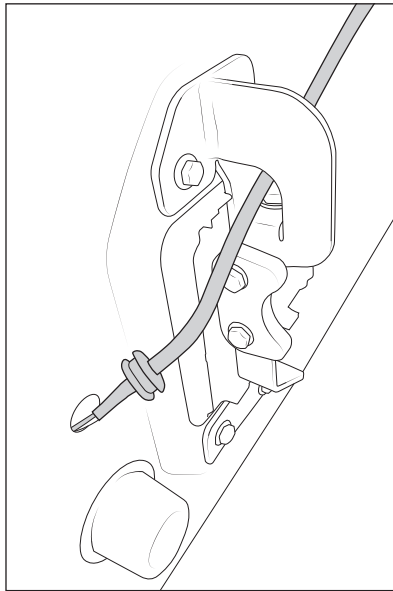

Figure 21
8. Install wiring harness through the hole in the tailgate. Wipe silicone or dish soap on the grommet to ease installation, then carefully use trim tool or flathead screwdriver to start grommet into hole. Fully seat it by hand. Route the harness along the tire carrier as shown (fig. 21).